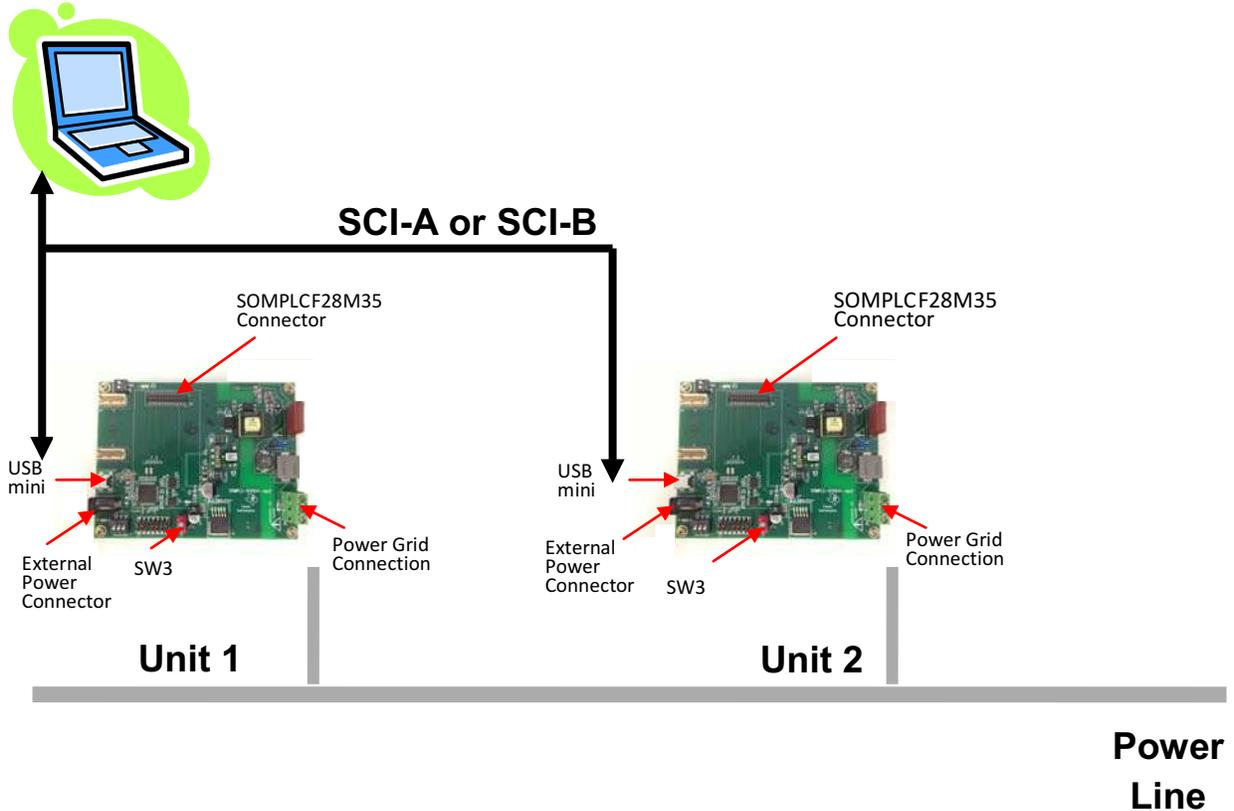

Figure 13. PLC Kits to Power Line Connections
- Connect each PLC kit to power line, as shown in Figure 13. Please ensure that devices are connected on same power line phase.
<p>Danger High Voltage</p>	<p>Use caution when connecting to the power grid. If there is concern about connecting to the power grid, a power strip can be used to connect the two modems together. In this case, the power strip does NOT need to be plugged into the power grid. Connect each PLC kit to power line . as shown in Figure 13.</p>